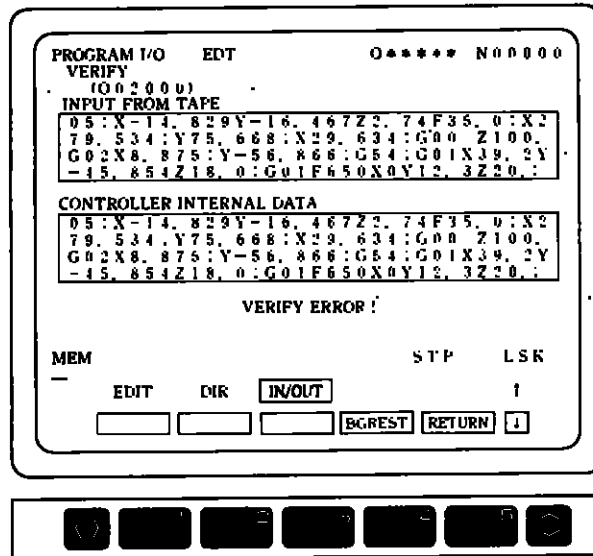

Fig.3.4.47 Mismatch found
- 4 If inconsistency between the memory contents and the input from external equipment is found, the screen shown in Fig. 3.4.47 is displayed, and the unmatched parts are shown highlighted.
- 4 If inconsistency between the memory contents and the input from external equipment is found, the screen shown in Fig.3.4.47 is displayed, and the unmatched parts are shown highlighted.
(4) BG reset